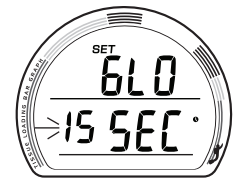

Fig. 45 - SET BACKLIGHT
**SET BACKLIGHT DURATION (TECH only)**, information is to include (Fig. 45):